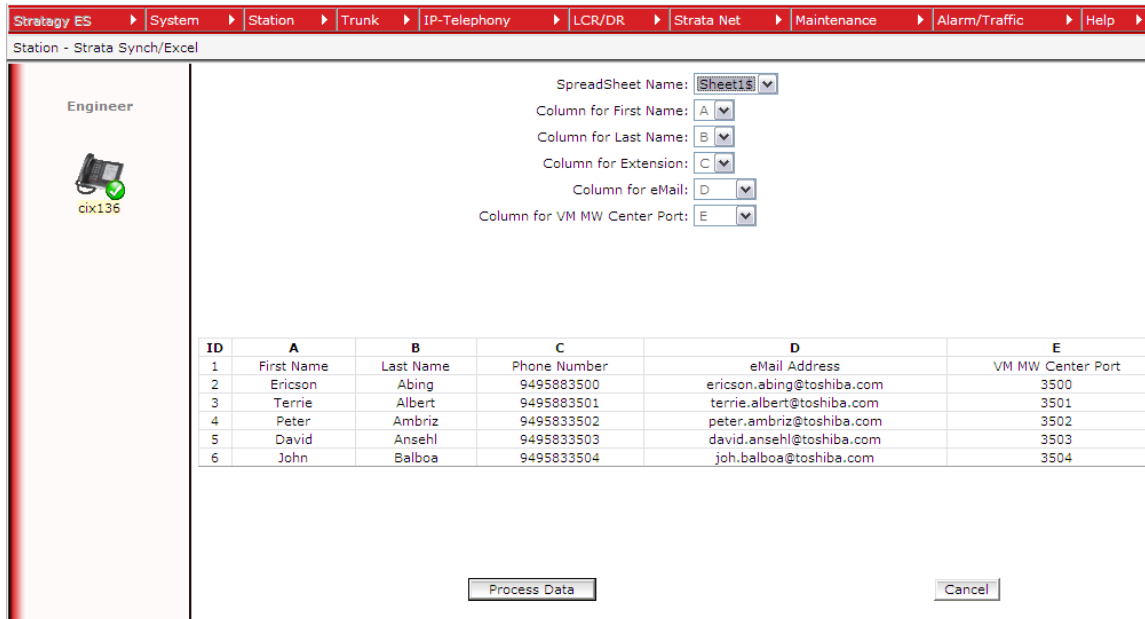
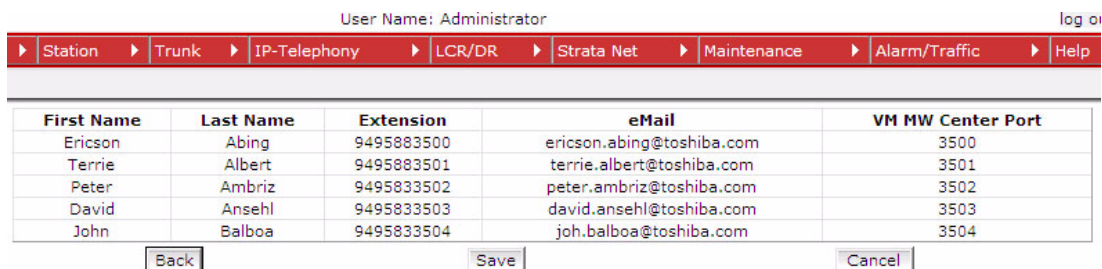

Figure 2-5. Data Definition Screen
Figure 2-6. Verification Screen
- Figure 2-5 is the data definition screen. This screen allows the technician to specify which column represents which particular field. Notice that in Figure 2-5 below, column C is defined as “Column for Extension” but the data actually shows phone numbers. This is acceptable because the technician has the chance to specify which part of the phone number represents the extension number.
- Figure 2-6 is the verification screen. This screen allows the technician to make sure field names correspond with the data. Clicking the **Back** button on this screen takes the technician back to the screen shown in Figure 2-5 and modify the columns, if necessary. Clicking the **Cancel** button allows the technician to cancel the entire process and return to Figure 2-1.
- Click the **Save** button to continue with the import process and save the .xls file to the Network eManager PC as shown on Figure 2-6.